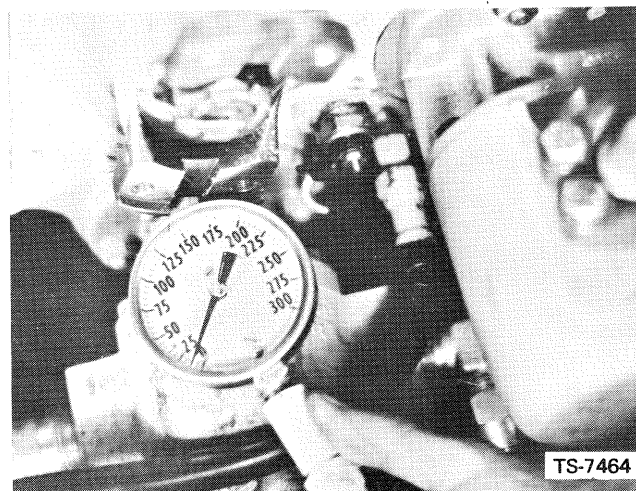

Fig. 5-2 Check Converter Out Pressure
2. Install a gauge at the converter **OUT** pressure port located below the sender unit on the rear of the converter. Fig. 5-2